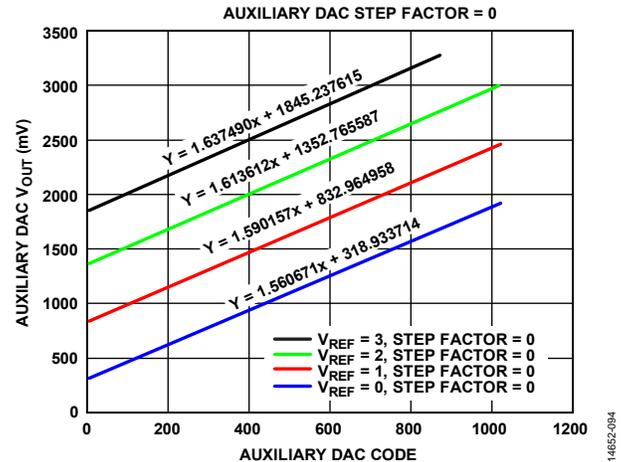
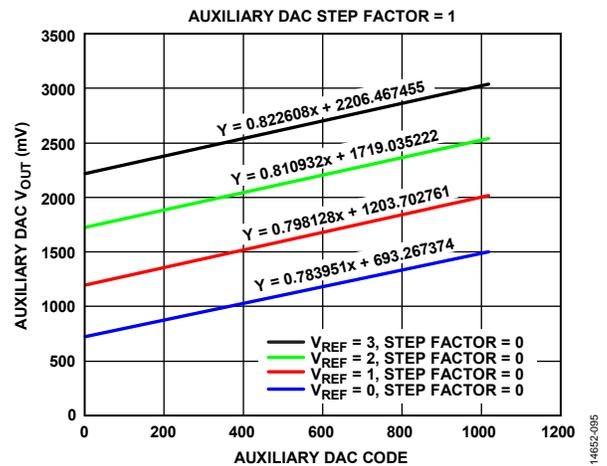

Figure 107. Auxiliary DAC Output Voltage (VOUT) vs. Auxiliary DAC Code for the Different auxDacVref Values (auxDacSlope = 0)
Figure 108. Auxiliary DAC Output Voltage (VOUT) vs. Auxiliary DAC Codes for Different auxDacVref Values (auxDacSlope = 1)
- When set to 0, this structure member sets the corresponding auxiliary DAC voltage output (VOUT) codes to be 1.404 mV/code (see Figure 107).
- When set to 1, this structure member sets the corresponding auxiliary DAC voltage output (VOUT) codes to be 0.702 mV/code (see Figure 108).
- When set to 0, this structure member sets the corresponding auxiliary DAC output midpoint to 1 V (see Figure 107 and Figure 108).
- When set to 1, this structure member sets the corresponding auxiliary DAC output midpoint to 1.5 V (see Figure 107 and Figure 108).
- When set to 2, this structure member sets the corresponding auxiliary DAC output midpoint to 2 V (see Figure 107 and Figure 108).
- When set to 3, this structure member sets the corresponding auxiliary DAC output midpoint to 2.5 V (see Figure 107 and Figure 108).